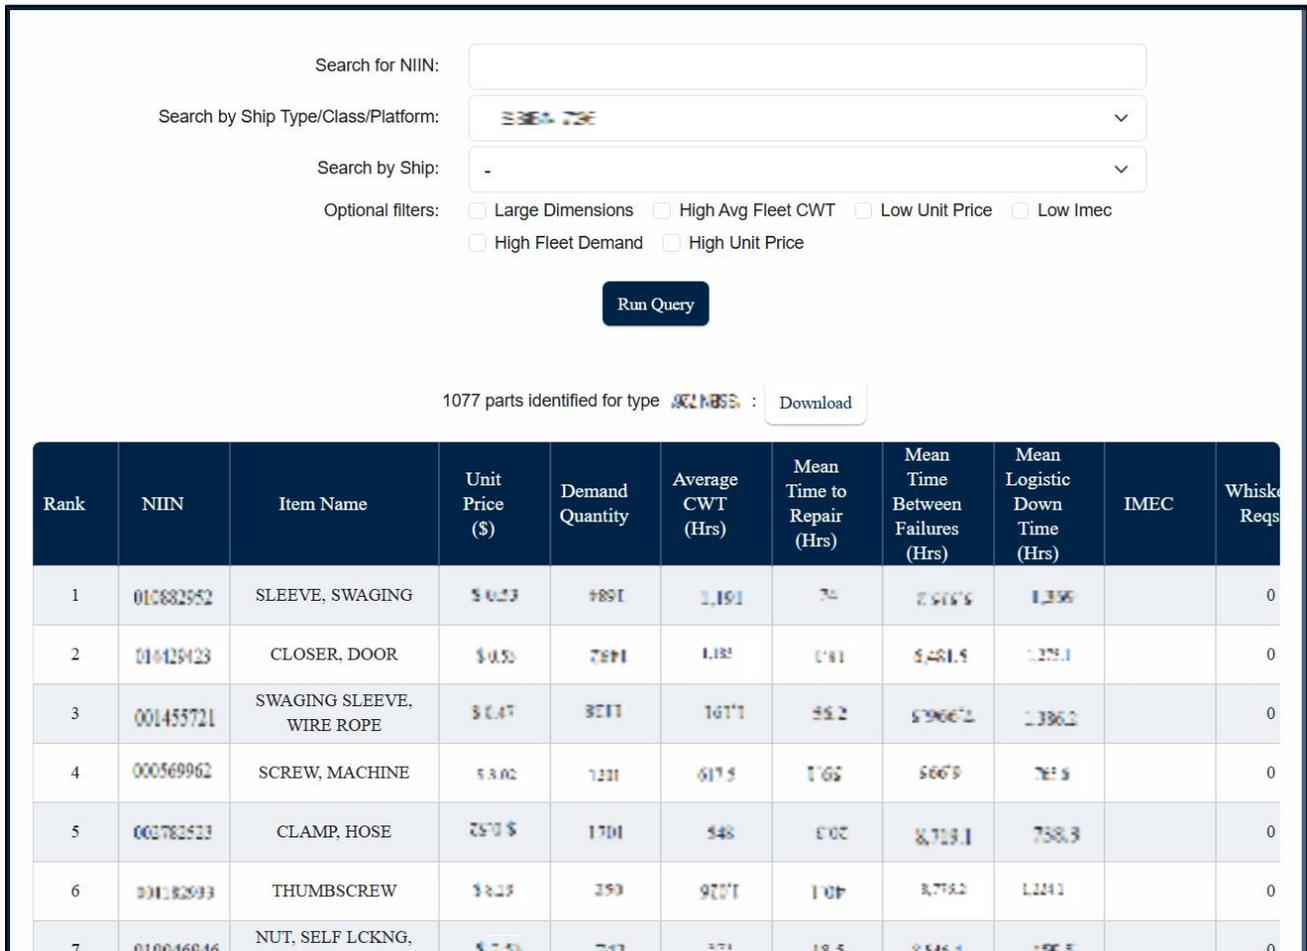

Figure 3.3
D. Click the 'Run Query' button to view the data meeting the search criteria (see **Figure 3.3**).